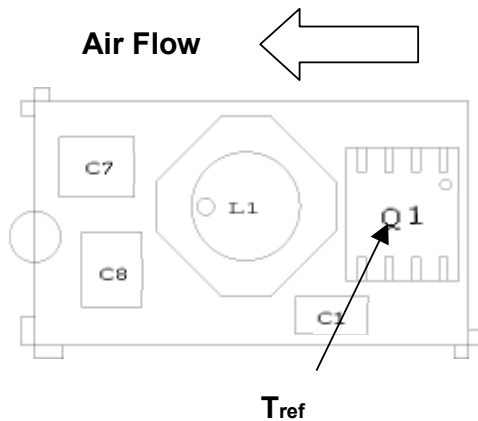
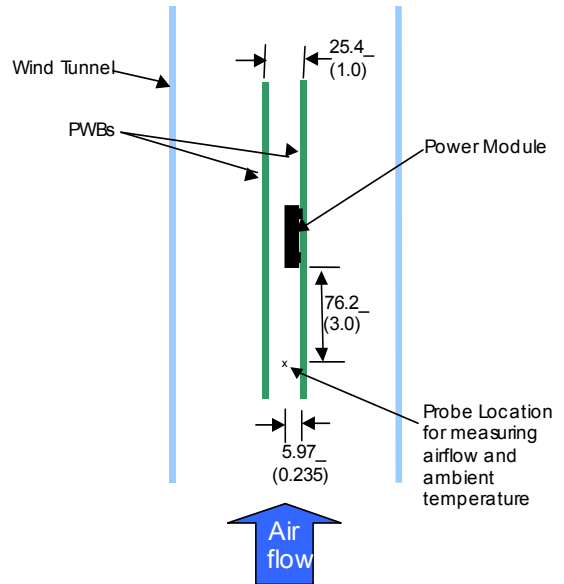

Figure 31. T_{ref} Temperature measurement location.
Figure 32. Thermal Test Set-up.
To provide over temperature protection in a fault condition, the unit relies upon the thermal protection feature of the controller IC. The unit will shutdown if the thermal reference point T_{ref2} , (see Figure 31) exceeds 140°C (typical), but the thermal shutdown is not intended as a guarantee that the unit will survive temperatures beyond its rating. The module will automatically restarts after it cools down.
Considerations include ambient temperature, airflow, module power dissipation, and the need for increased reliability. A reduction in the operating temperature of the module will result in an increase in reliability. The thermal data presented here is based on physical measurements taken in a wind tunnel. The test set-up is shown in Figure 32. Note that the airflow is parallel to the long axis of the module as shown in figure 31. The derating data applies to airflow in either direction of the module's long axis.
The thermal reference point, T_{ref} used in the specifications is shown in Figure 32. For reliable operation this temperature should not exceed 115°C.